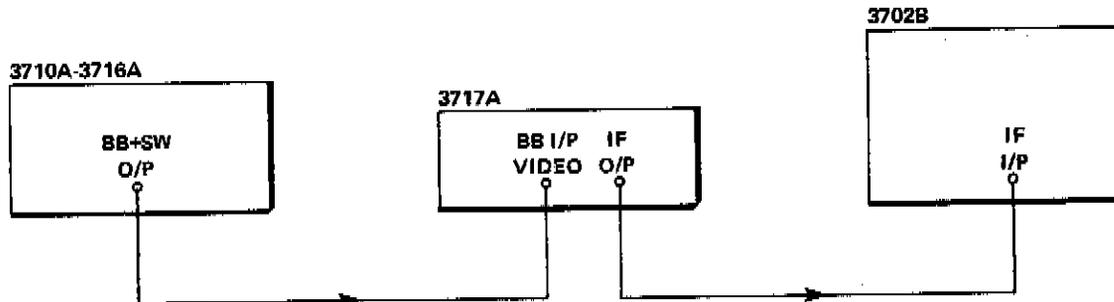

Figure 5-14 Video Input Sensitivity Setup
1. Connect the equipment as shown in Figure 5-14. Set the controls as follows: